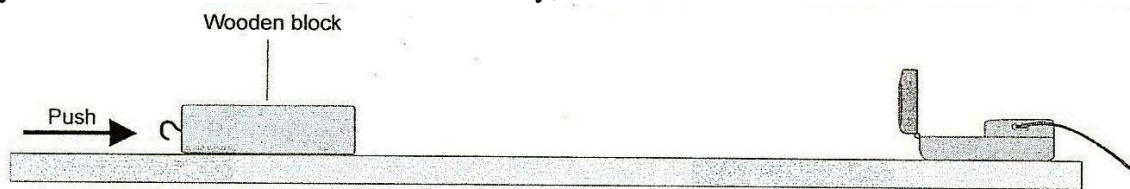

Figure 2
16. Place the Motion Detector on the lab table 2-3 m from a block of wood, as shown in Figure 2. Position the Motion Detector so that it will detect the motion of the block as it slides toward the detector.